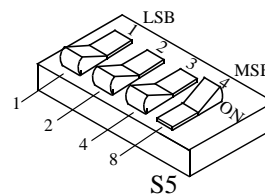
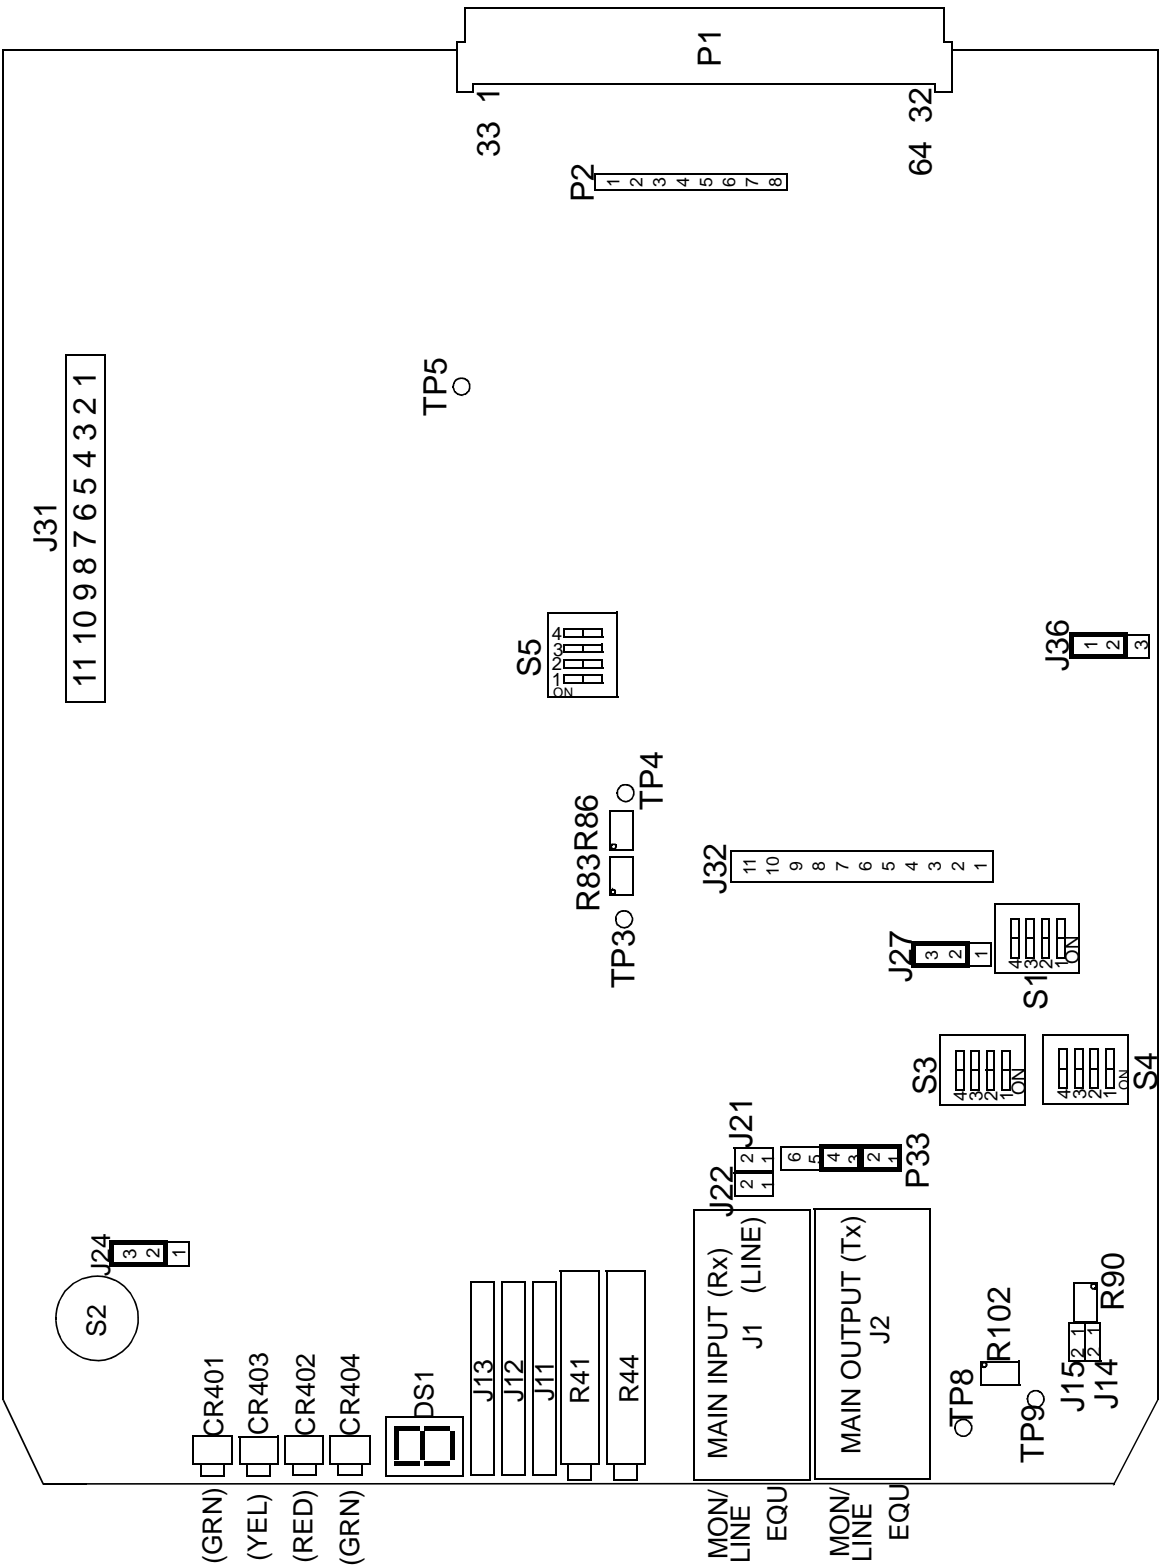

Figure 1-19 CIM S5 FSK ALIGNMENT TONE
Figure 1-24 CIM ALIGNMENT POINTS DIAGRAM
1. **In the CIM** set S5 as shown in Figure 1-19 to generate the FSK alignment tone over the data path. At the Switch, this tone will be at the average voice level of -12 dBm with LL/DC links or -28 dBm with MW/T1 links. (See Figure 1-24.)
3. **In the CIM** set S5 as shown in Figure 1-19 to generate a 1200 Hz alignment tone over the voice path.
8. **On the CIM** connect a Transmission Test Set to TP8 and adjust R102 for a meter reading of -12 dBm. This adjusts the Secondary Receive level on the CIM. (See Figure 1-24.)